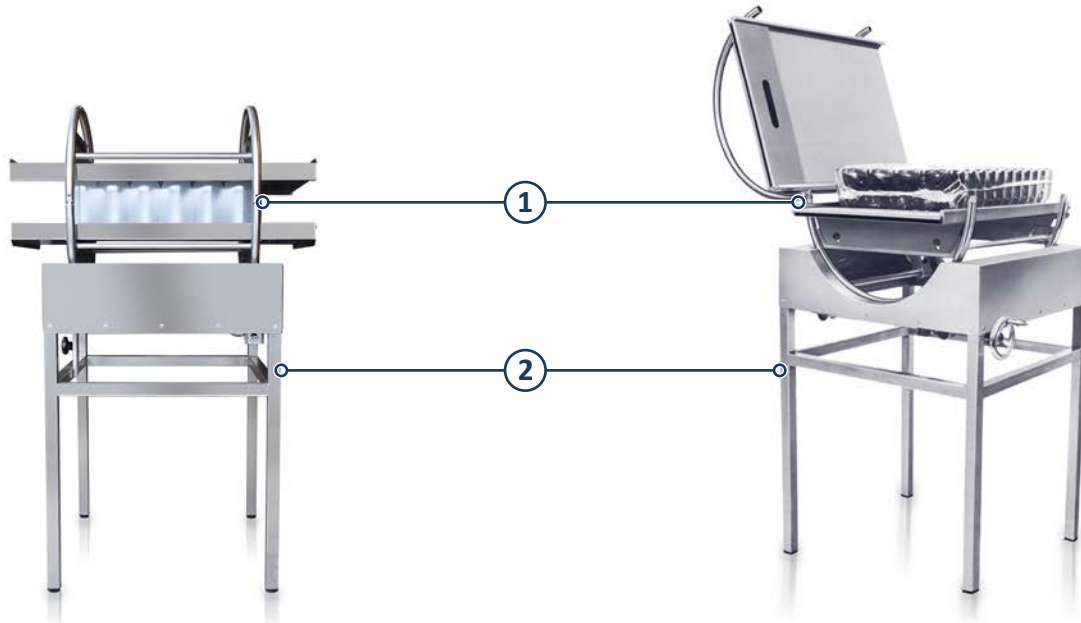

Fig. 1: Turning station ASF15 (base and rotor)
- If not already done, adjust the ASF15 to the smallest predefined bottle height. Even on models without any given bottle height there is at least one predefined reference position. To do so, loose the screws that hold the plates in position (3) and move the plates into position that the locking bolts can be put into the predrilled holes (4).
- Release the stopper mechanism by loosening the star knob (5).
- Turn the handle (6) to lower the rotor to the lowest possible position.
- Close the stopper mechanism by fastening the star knob (5).
- The lower plate (2) should now have the same height as your production line. If not so, adjust the height of the base by screwing the caster wheels in or out. Use a water level to ensure that the turning station stands horizontally in both directions.
- Now turn the adjustment wheel (6) to move the rotor up by half of the difference between the height that is adjusted at the moment and the height of the bottles you want to use. For example if the actual height is 50mm and you want to adjust the unpacker to 120mm bottles, move the rotor up by $(120 - 50) / 2 = 35\text{mm}$. Please ensure that the stopper mechanism (5) is loosened during this step.
- Release the screws (3) of the lower plate (2) and adjust it to the height of your production line. Use a water level to ensure that it is horizontally mounted. Fix this position by tightening the screws.
The unpacker is now set-up for this bottle height. To fix this position, additional holes can be drilled like the ones already present (see (4) in figure 1).